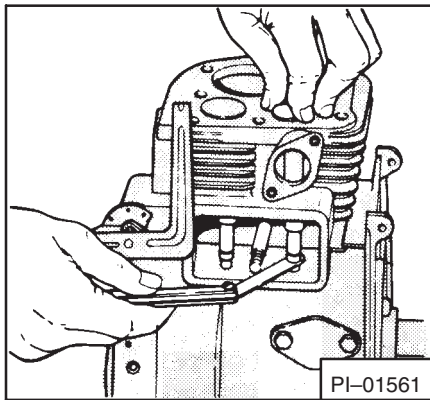

Fig. 60 Checking Valve-Tappet Clearance
- b. Valve clearance should be checked cold (Fig. 60). Adjust tappets to correct clearance.